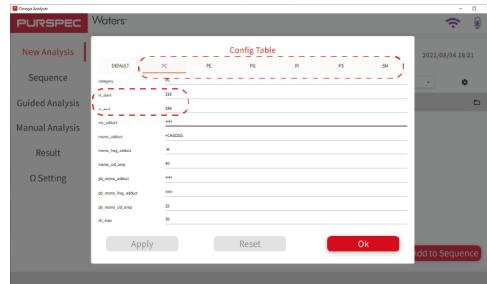

Figure 8.3
5. Record the start and end times of each chromatographic peak. Enter these times into the configuration interface, as shown in Figure 8.3.